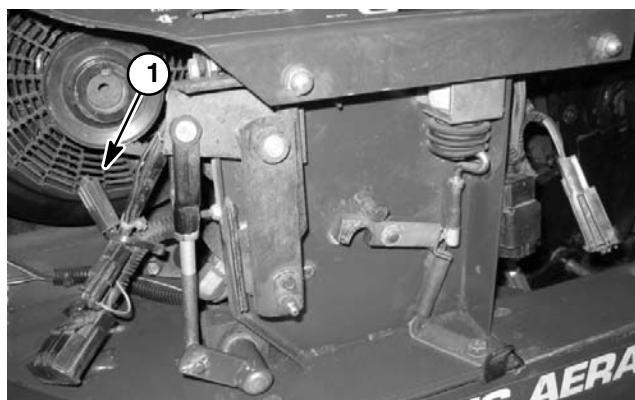

Figure 20
**5 Amp Fuse:** Protects circuit to clutch solenoid. The 5 Amp fuse is located under the console cover (Fig. 20).